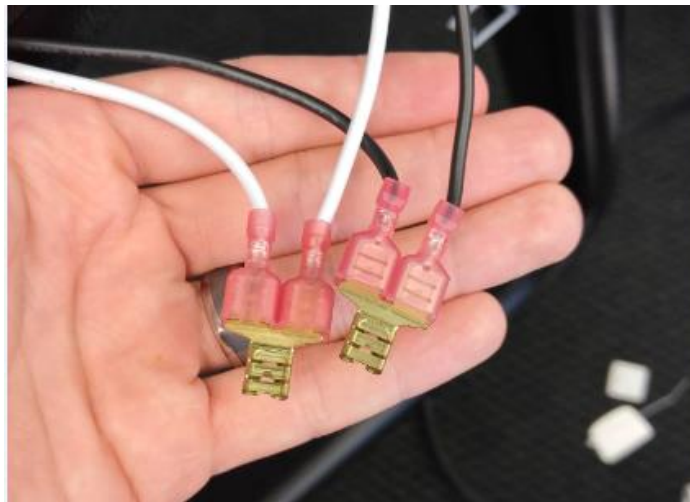

Fig. 1
2. Remove splitters and the connected wires from power switch (Fig. 1)